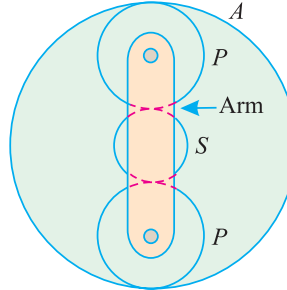

Fig. 34.15.
**Example 34.8.** An epicyclic gear train as shown in Fig. 34.15, has a sun wheel  $S$  of 30 teeth and two planet wheels  $P$ ,  $P$  of 50 teeth. The planet wheels mesh with the internal teeth of a fixed annulus  $A$ . The driving shaft carrying the sun wheel, transmits 4 kW at 300 r.p.m. The driven shaft is connected to an arm, which carries the planet wheels.
Let  $d_A$ ,  $d_P$  and  $d_S$  be the pitch circle diameters of the wheels A, P and S respectively. From the geometry of Fig. 34.15, we find that
- In an epicyclic gear train (as shown in Fig. 34.15) the arm is fixed to the shaft. The sun wheel S having 100 teeth rotates freely on the shaft and the wheel A with 150 teeth is separately driven. If the arm runs at 200 r.p.m. and the wheel A at 100 r.p.m. in the direction, find